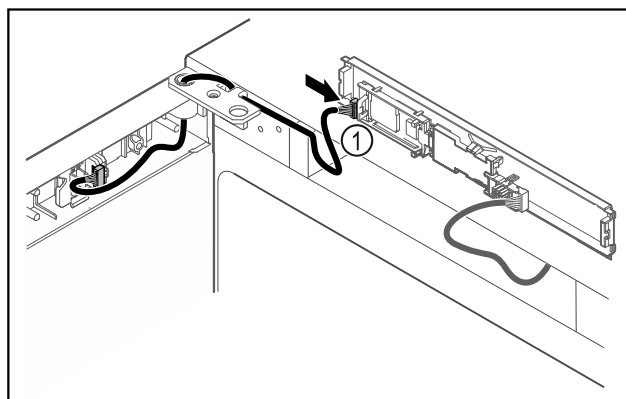

Fig. 50
- ▶ Connect the plug Fig. 50 (1) to the circuit board.